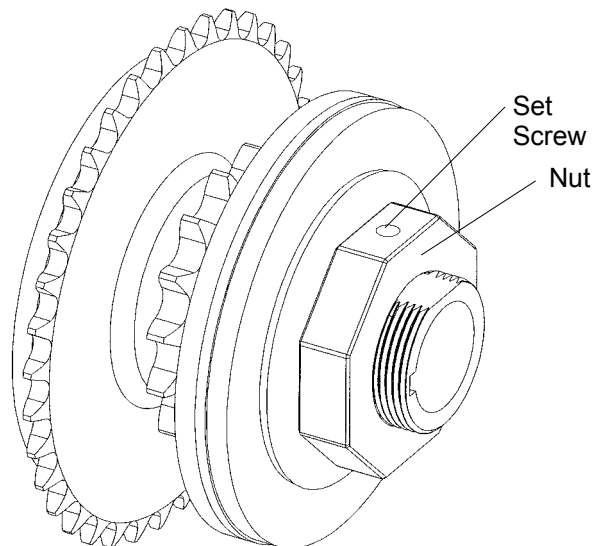

Figure 36 - Clutch Adjustment
1. Loosen clutch set screw, refer to Figure 36.